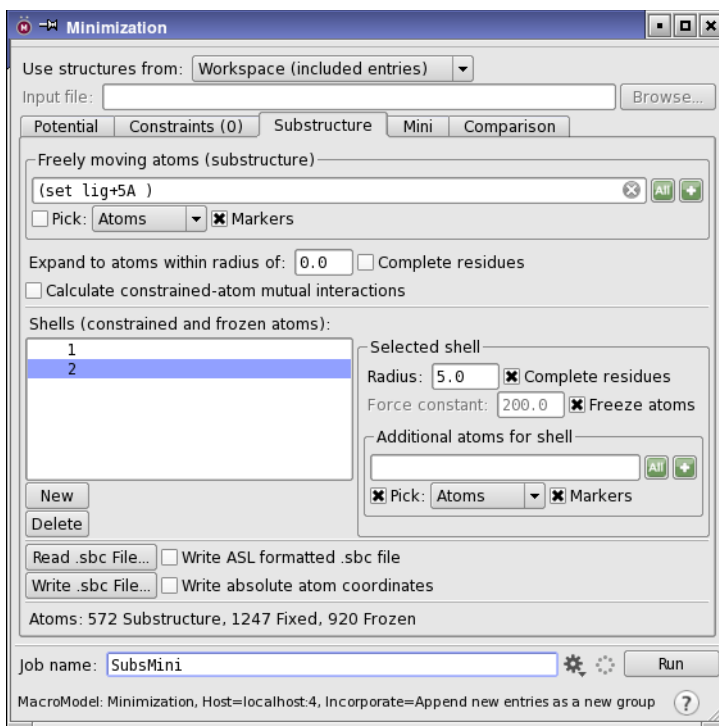

Figure 3.7. The Minimization panel showing the Substructure tab.
7. In the Substructure tab (see Figure 3.7), under Freely moving atoms (substructure), click the Atom Selections button and choose Ligands.